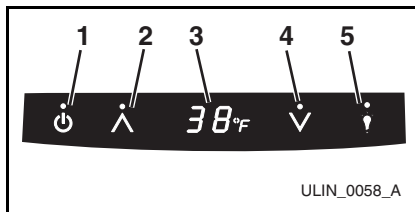

Figure 5
1. Press and release either the WARMER (**Figure 5, 2**) or COOLER (**Figure 5, 4**) icon to put the controller in the SET TEMPERATURE mode. The °F symbol (**Figure 5, 3**) will begin to flash.